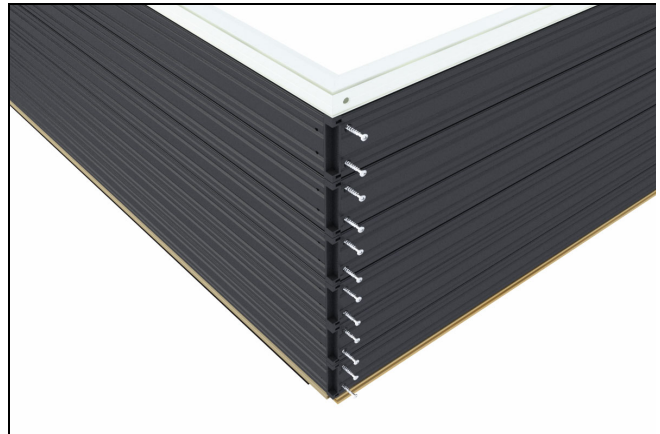

Figure 3
3. Fasten the head jamb to the side jamb using #8 x 1 1/4" pan head screws. See Figure 3.